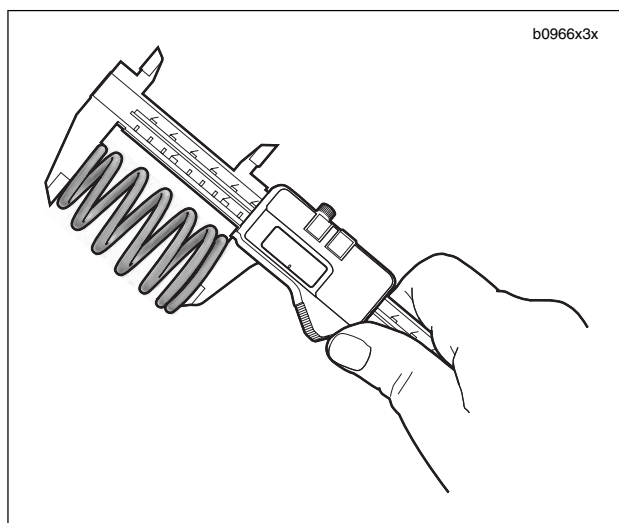

Figure 3-72. Checking Spring Free Length
2. See Figure 3-72. Check free length and compression force of each spring. Compare with 3.1 SPECIFICATIONS. If spring length is shorter than specification or if spring compression force is below specification, replace spring.